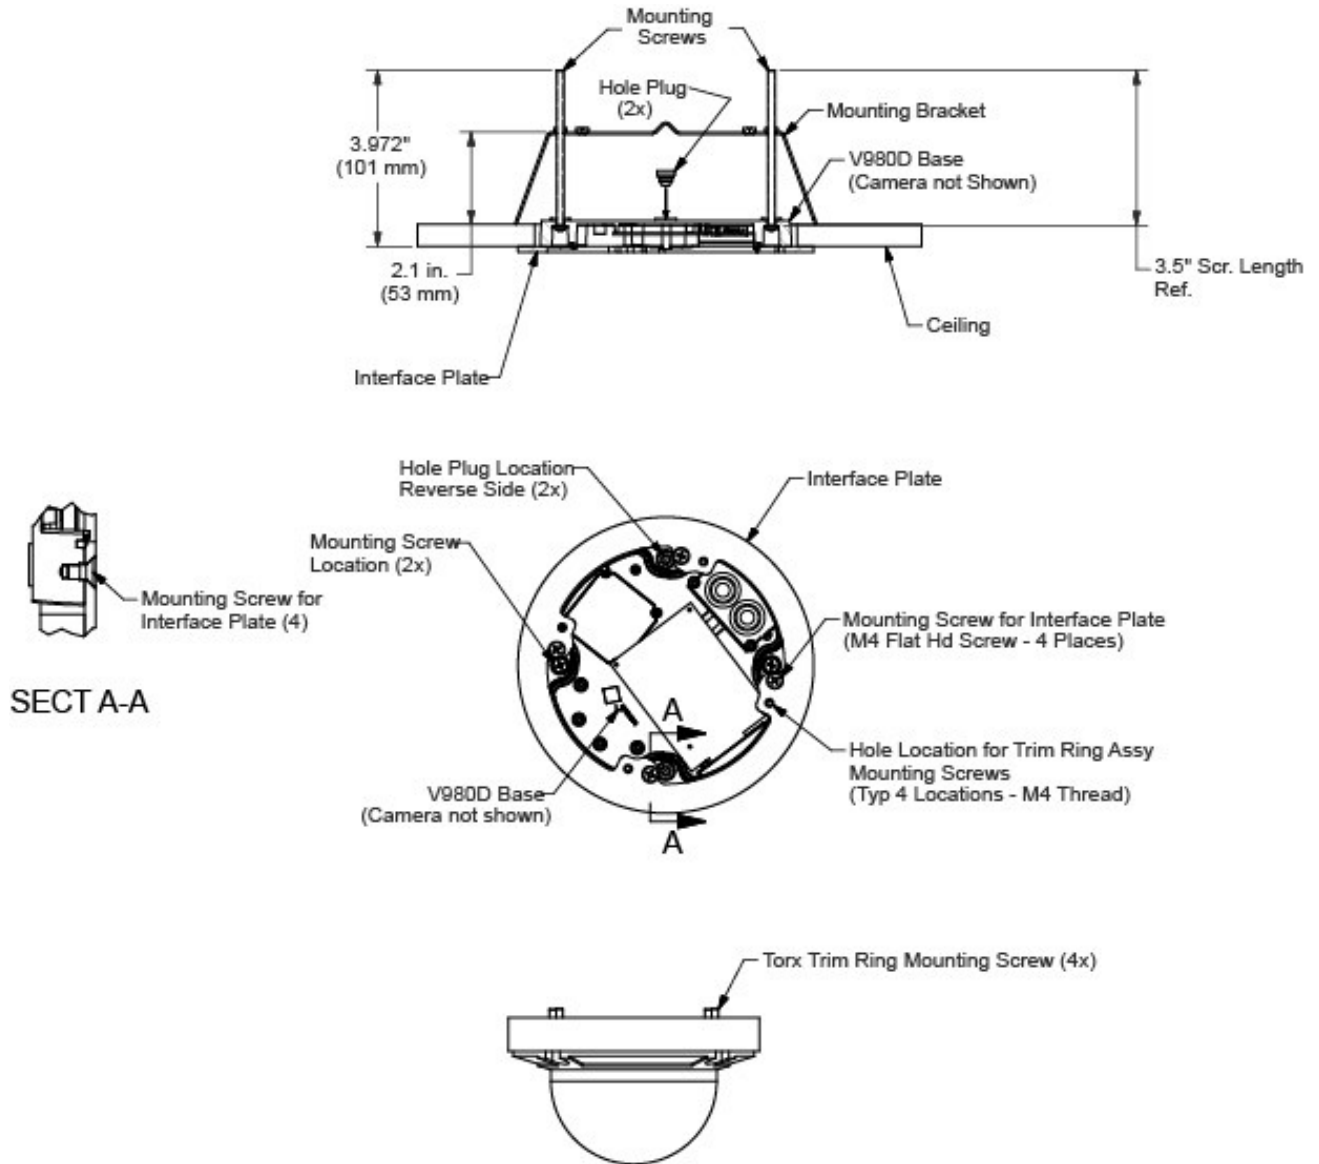

Figure 2
2. Install the interface plate onto the base of the V980D with the four (4) M4 flat head screws provided.
4. Secure the V980D assembly with interface plate to the mounting bracket using two (2) of the four (4) holes mounting holes in the V980D base with the 8-32 pan head screws provided. Be sure to orient the base so the cable access hole in the base is not blocked by the bracket. Refer
to Figure 2. Plug the other two (2) mounting holes in the V980D base with the hole plugs provided to prevent any debris from entering the base.
5. Compress the mounting bracket and insert it into the hole in the ceiling. The right angle sides of the bracket will be outside the hole at the bottom. Refer to Figure 2.